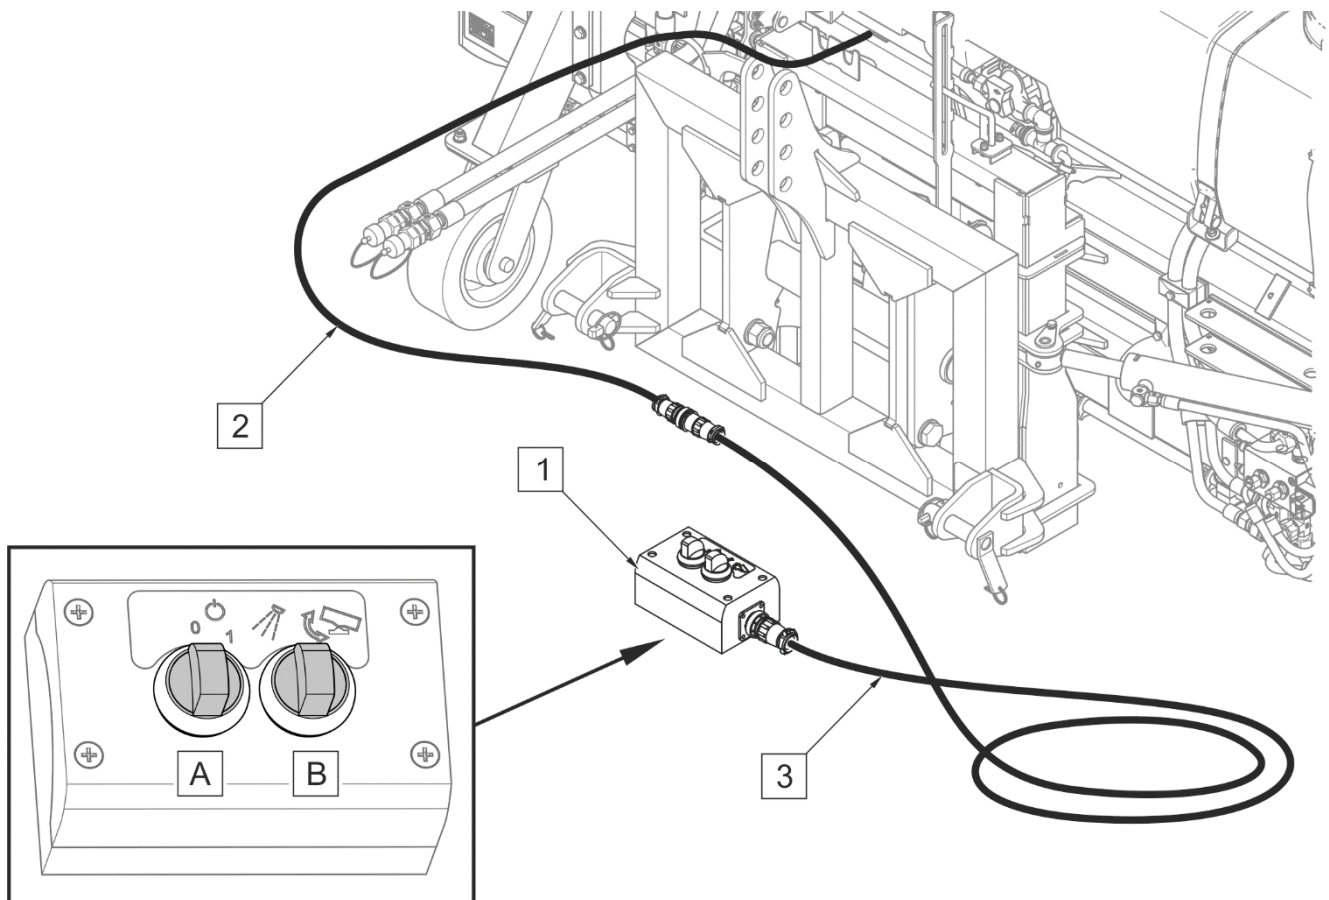

FIGURE 4.8 Control panel connection
(1)- control panel; (2)- sweeper's power supply wiring harness; (3)- extension wiring harness; (A) - main switch of control panel and clearance lights; (B) - switch of sprinkler system or hydraulic steering system
Before starting work, connect the control panel (1) to the control wiring harness (2) of the sweeper (FIGURE 4.8). If necessary, use the extension wiring harness (3). Place the control panel in the operator cab in an easily accessible place. If the switch (A) is turned clockwise to position "1", the control panel power supply and clearance lights are on. Switch (A) in position "1" is backlit in green colour. 3-position switch (B) is used for switching on/off the sprinkler system and for switching on/off the hydraulic steering system (option).